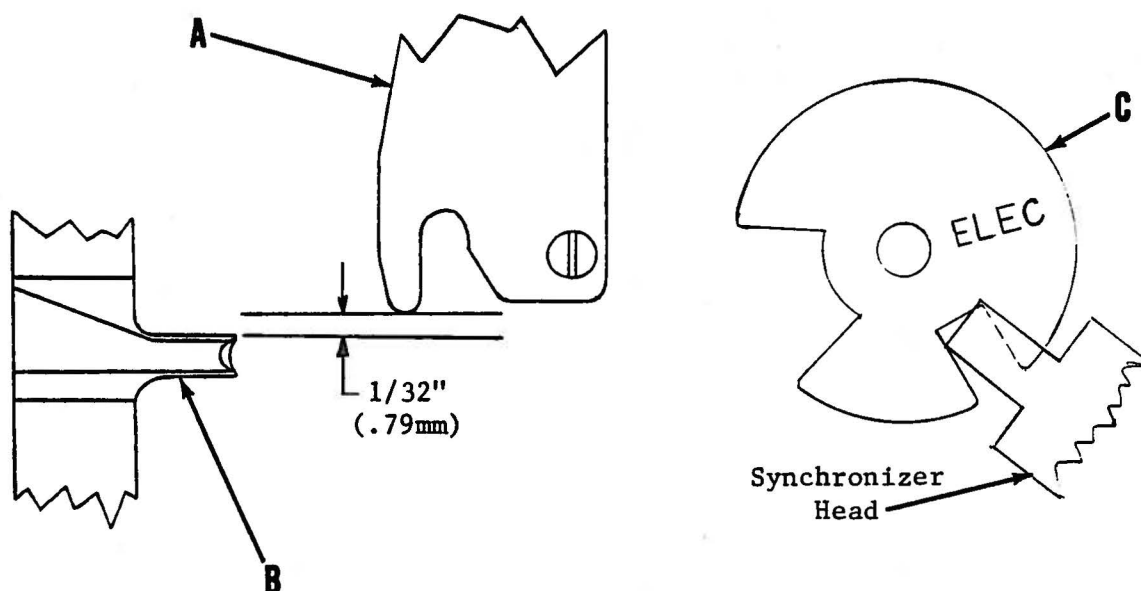

Fig. 37
With power off, turn the handwheel in operating direction until tip of finger of the hook thread deflector (A, Fig. 37) is 1/32 inch (.79 mm) to the rear of the rear edge of positioning finger (B), with needle on upstroke. Rotate the trim disc (C) until the trailing edge of its smaller opening coincides with the left corner of the synchronizer head (Fig. 37). Since the "needle-up" and "trim" discs are in constant contact, recheck NEEDLE-UP POSITION.